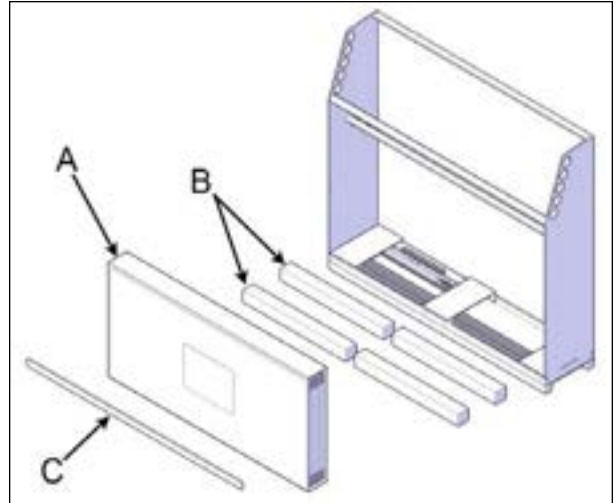

FIGURE 29: PANEL AND SLEEVE BOXES
- With the help of another worker, carefully remove the panel box and the sleeve boxes from the crate. Install them in a safe space see Figure 29.